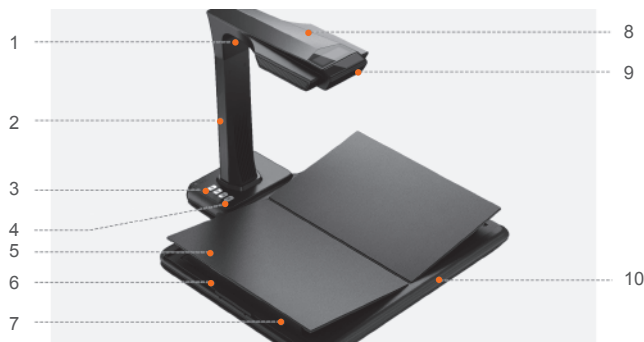

Figure 1
Step 1: Take out the equipment according to the instructions shown in Figure 1, and align the lamp and camera to the slot provided at the side of the base.